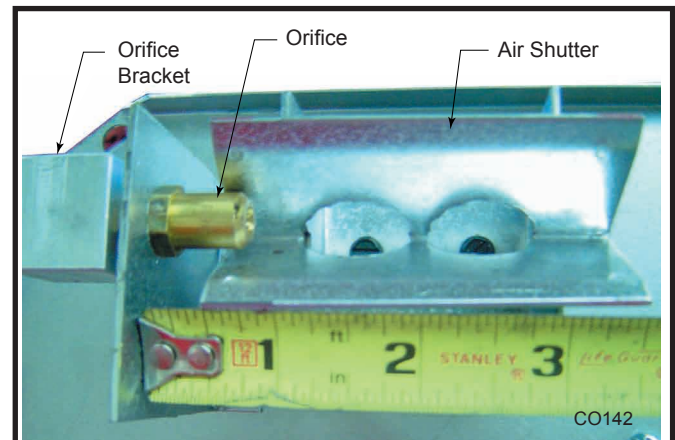

Fig. 15 The air shutter setting is 1/2" (13 mm) from the orifice bracket to the edge of the air shutter.
5. The air shutter is factory set according to Table 1 and should not need adjustment. The air shutter opening may be verified by measuring as shown in Figure 15.